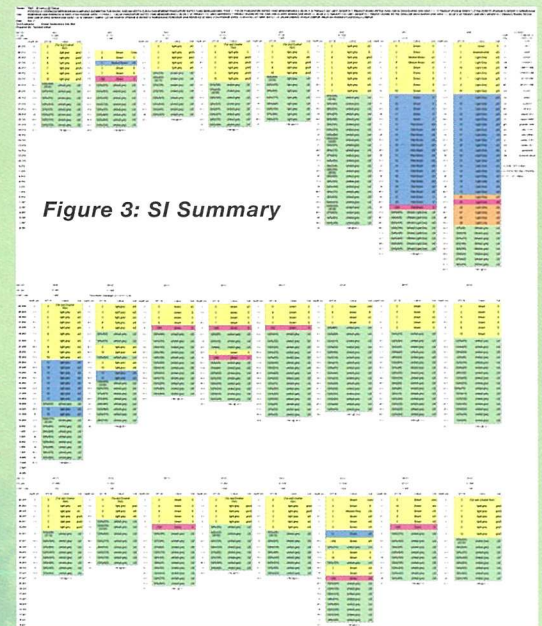

Figure 3: SI Summary
Referring to the available soil investigation (SI) information in Figure 3, the project site is underlain with KL Limestone formation where typical karstic features such as erratic bedrock level and cavity are expected. However, this project site had undergone cavity treatment works using compaction grouting prior to commencement of foundation works and this had eliminated some of the challenges due to subsurface uncertainties.